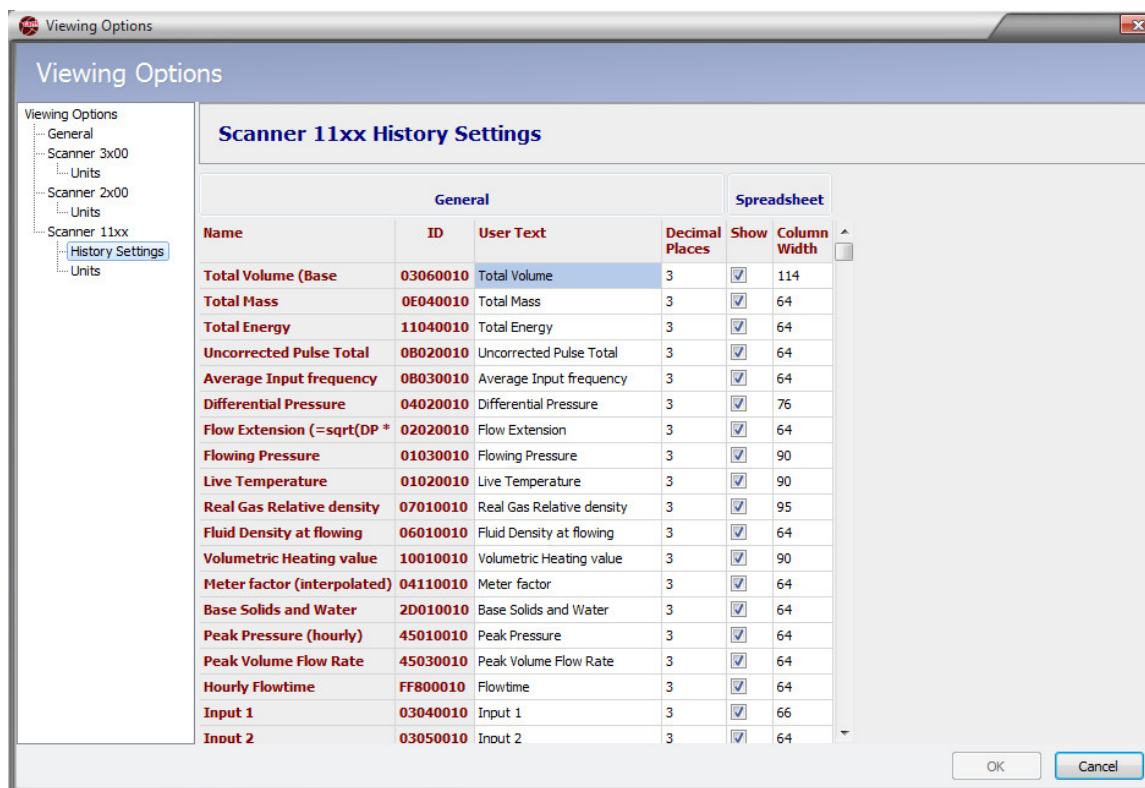

Figure A.4—Scanner 11xx history settings
- Select **Scanner 11xx>History Settings** (Figure A.4, page A-4).